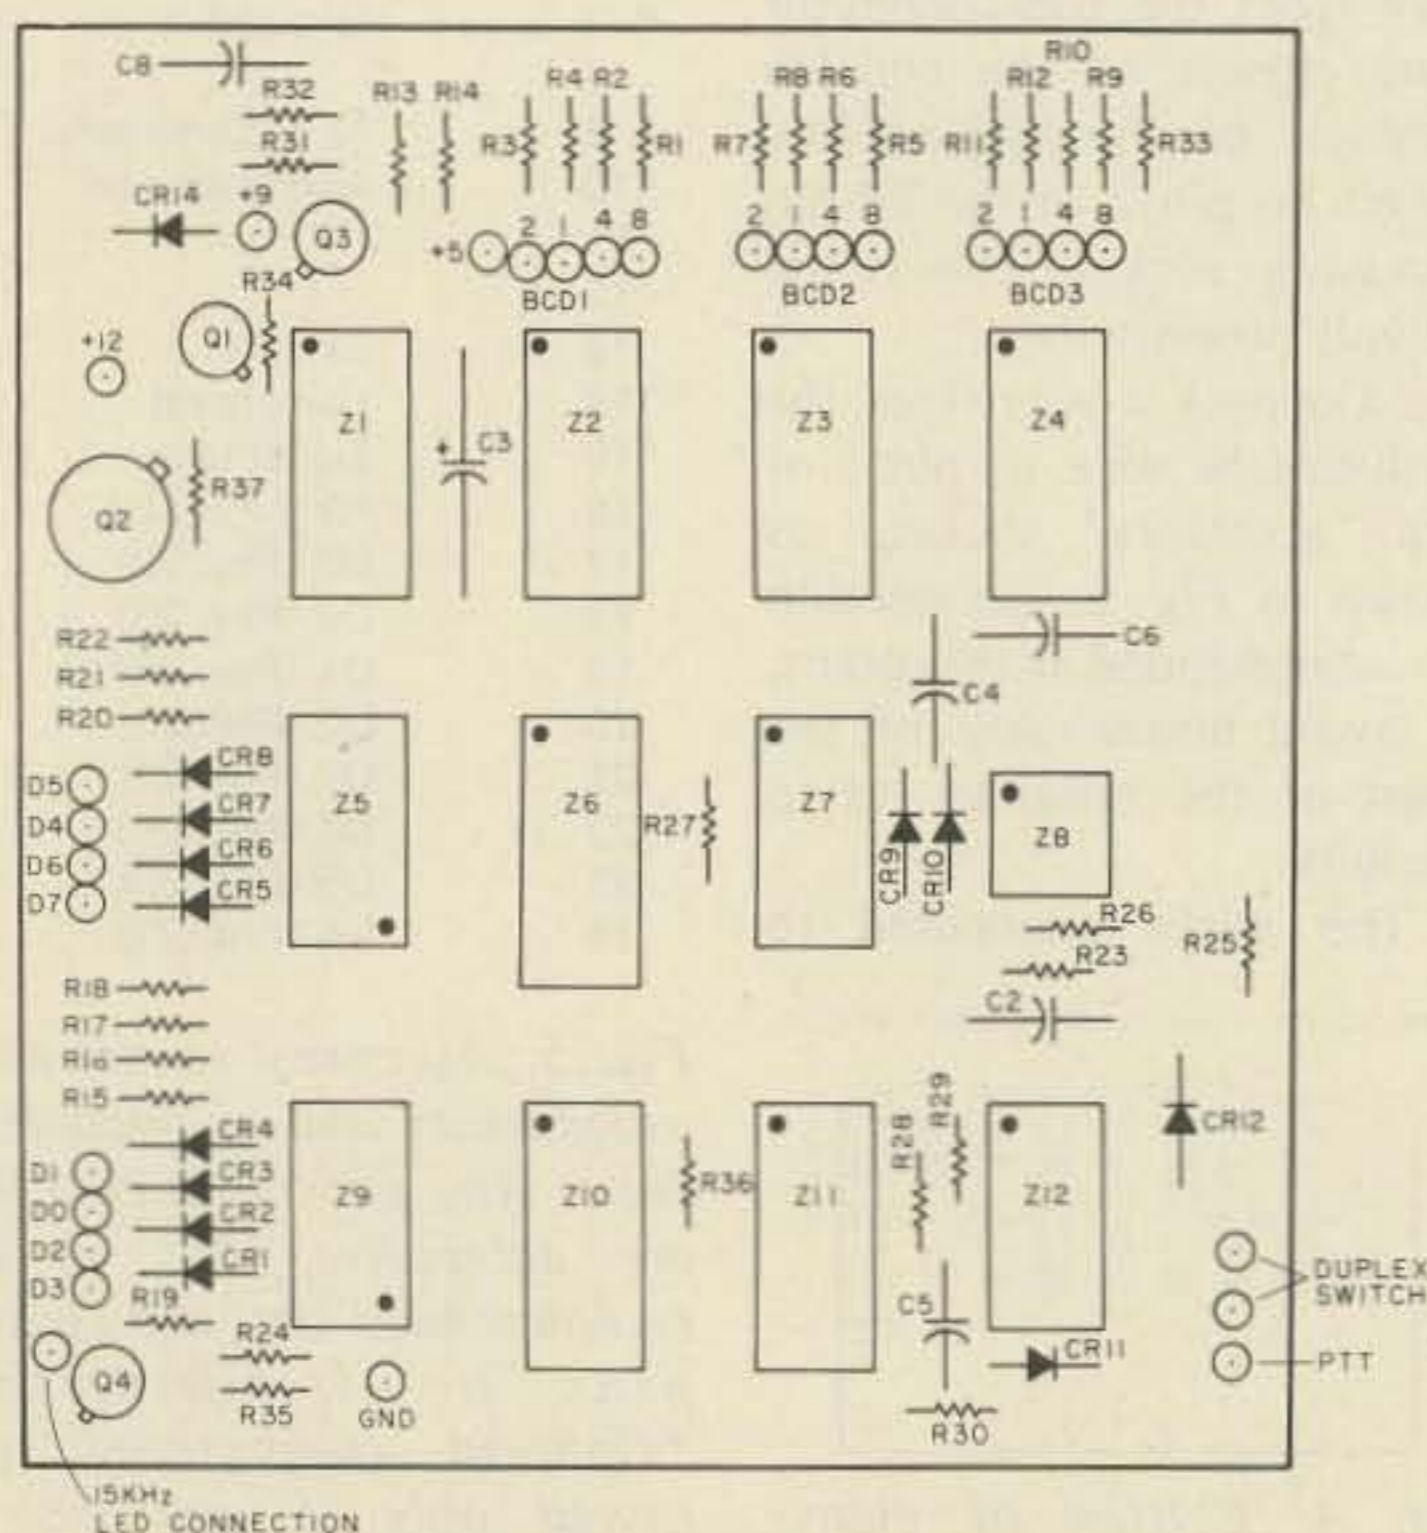

Fig. 8. Suggested parts layout.
4. Install wiring from the BCD switches to the circuit board. We mounted diode CR13 directly to the BCD switch connection points. The connection points are shown on the parts layout drawing (Fig. 8).